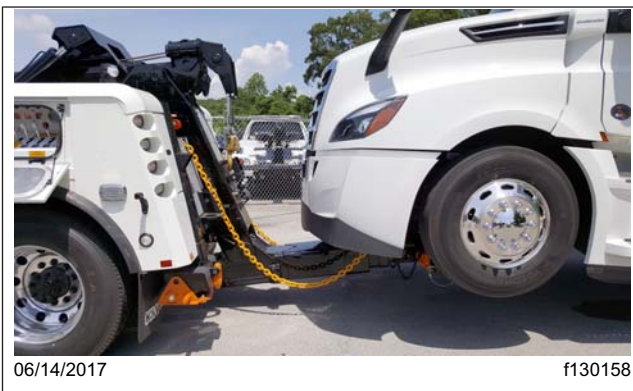

Fig. 23.17, Safety Chains Connected on the Towed Vehicle
19. Connect the safety chains. See Fig. 23.17.